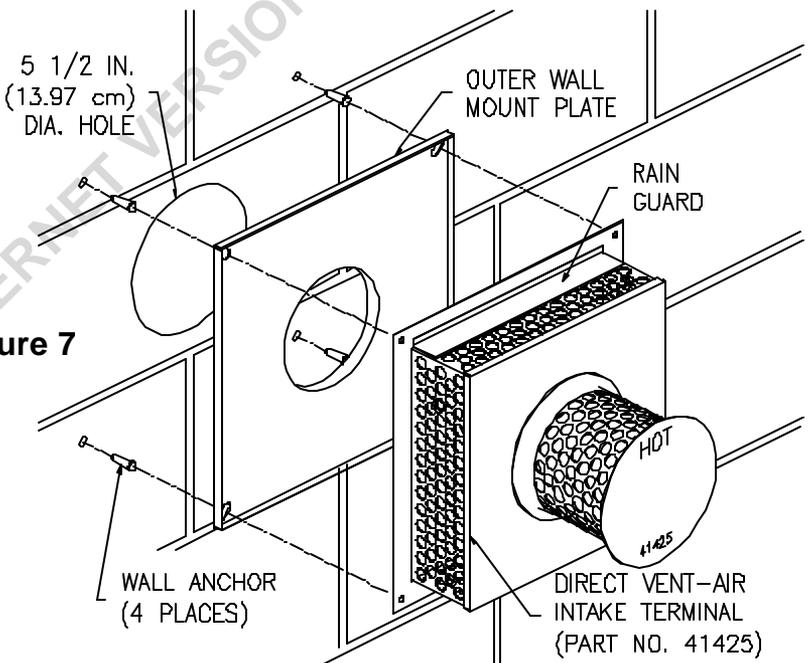

Figure 7
4. From outside the building, position the outer wall mount plate and direct vent-air intake terminal over the center of the opening. Mark the mounting screw hole locations. With a 3/16 inch diameter drill bit (not supplied), drill holes for the wall anchors (supplied). Install the wall anchors but **DO NOT** affix the outer wall mount plate and direct vent-air intake terminal to the wall at this time (See Figure 7). Note: Certain construction of walls may require the use of a different type of wall anchoring means than supplied. **DO NOT** modify the direct vent-air intake terminal or outer wall mount plate.